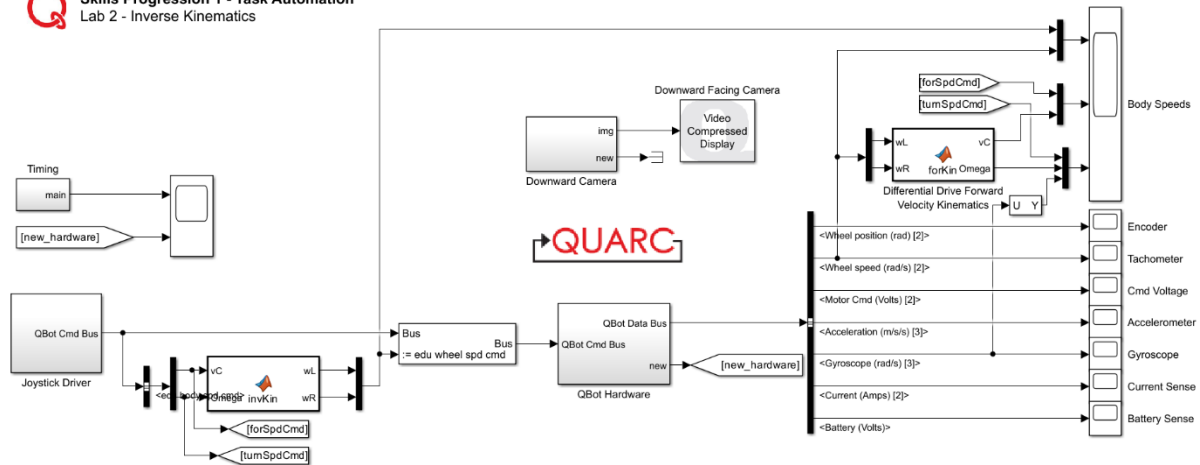

Figure 1. Inverse Kinematics Simulink Model
4. Open the Simulink Model inv_kin.slx, as shown in Figure 1. Configure the model so that it can be deployed to the QBot Platform: